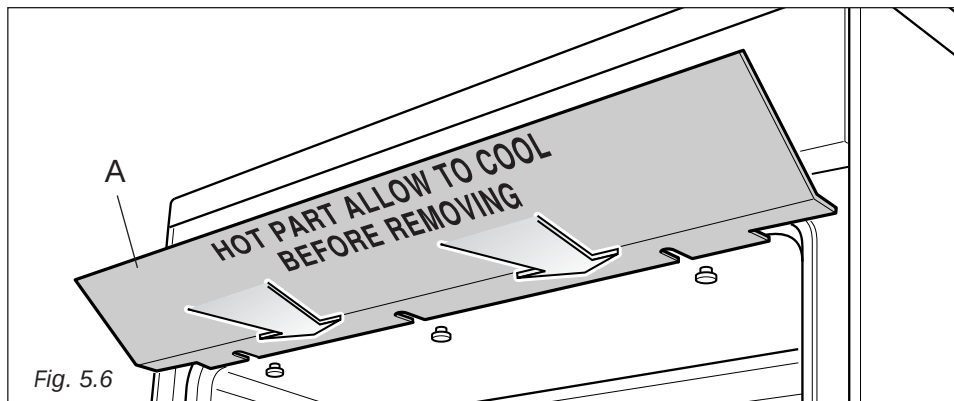

Fig. 5.6
IMPORTANT: the grill must always be used with the oven door ajar and with shield "A" mounted (fig. 5.6).
Do not close the oven door completely. The grill must always be used with the oven door slightly open and with shield "A" mounted (Fig. 5.6).
Very important: the grill must always be used with the oven door slightly open and with shield "A" mounted (Fig. 5.6).
- It is important that the heat shield is fitted the correct way up, as shown in the figure 5.6.